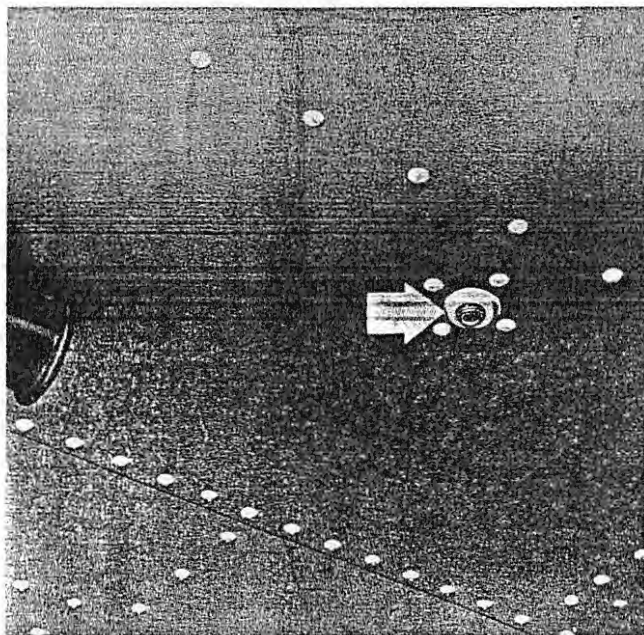

Figure 4-22. Anti-Icer Tank Drain
- a. Drain anti-icer fluid from the system by removing plug on the underside of the fuselage directly below the tank (figure 4-22).